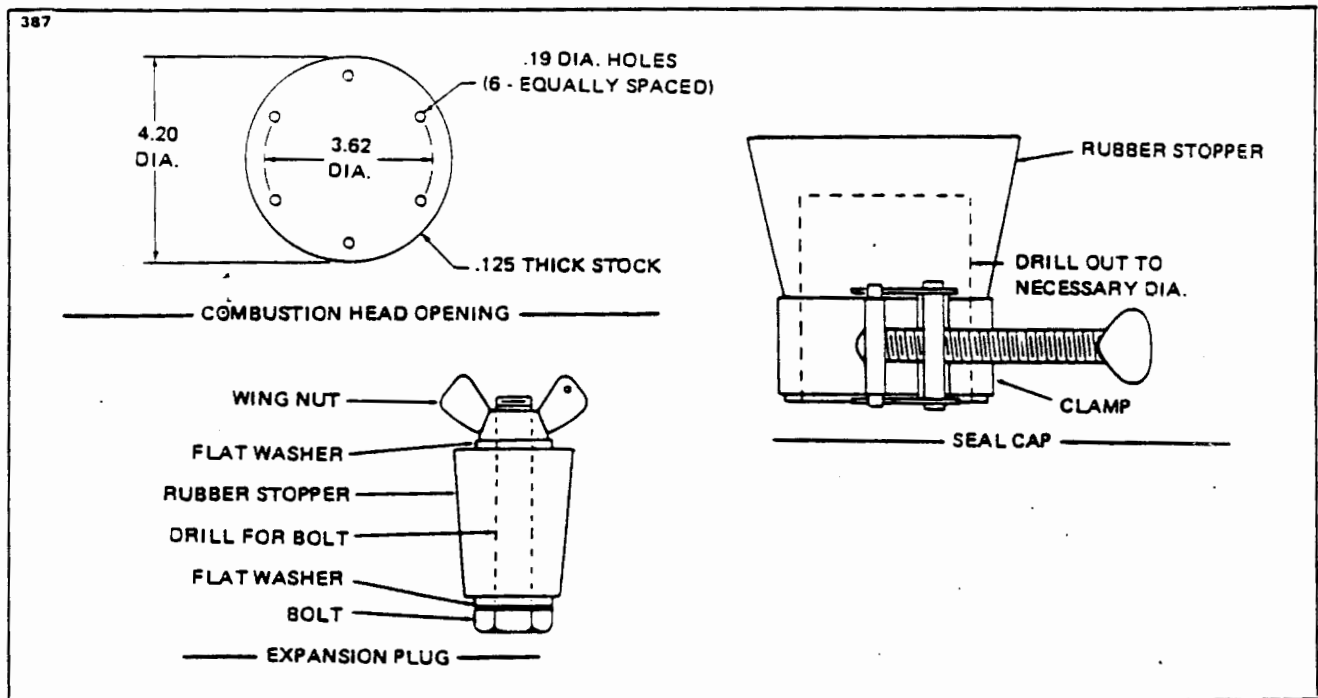

Figure 21-16. Suggested Design for Seal Plates, Plugs, and Caps for Combustion Tube Leakage Test
A. Fashion a sealing plate from approximately 1/8 inch thick flat stock to seal the combustion head opening in the combustion tube assembly. (Refer to Figure 21-16.) Use a rubber gasket under the plate and attach the plate with six screws.
B. Make up seals for all remaining openings, except the one used to connect the air pressure source. (Refer to Figure 21-16.) Use rubber stoppers as shown. The combustion air inlet tube can be sealed best with a drilled stopper and clamp. Other openings should be sealed with expansion plugs. The seal used in the exhaust tube should be formed so that it will not deform the air pressure switch tube which protrudes into the exhaust.